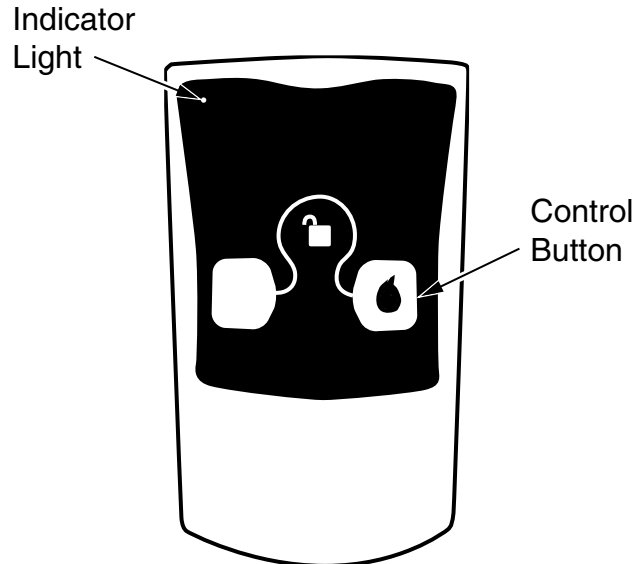

Figure 37 - On/Off Hand Held Remote Control Unit HRC100
2. Press the control button on the hand-held remote to turn the burner on. Press the control button again to turn burner off (see Figure 37).